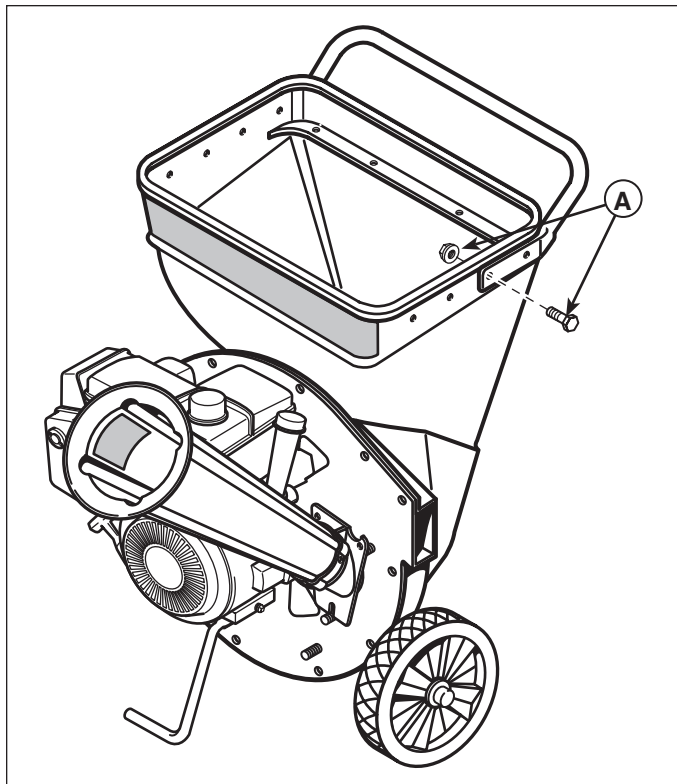

Figure 21. Installing the Hopper Handle
1. Lift the hopper handle up until the outer holes in the handle align with the holes in the shredder hopper and secure with 1/4-20 x 3/4 screws, washers, and nuts (A, Figure 21). Insert the screws from the outside of the shredder hopper.